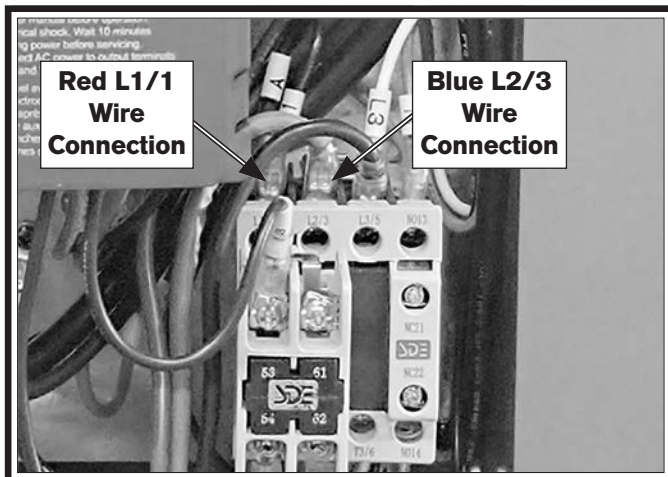

Figure 27. Power supply wire terminals.
12. Swap red wire connected to L1/1 terminal with blue wire connected to L2/3 terminal on contactor (see **Figure 27**).